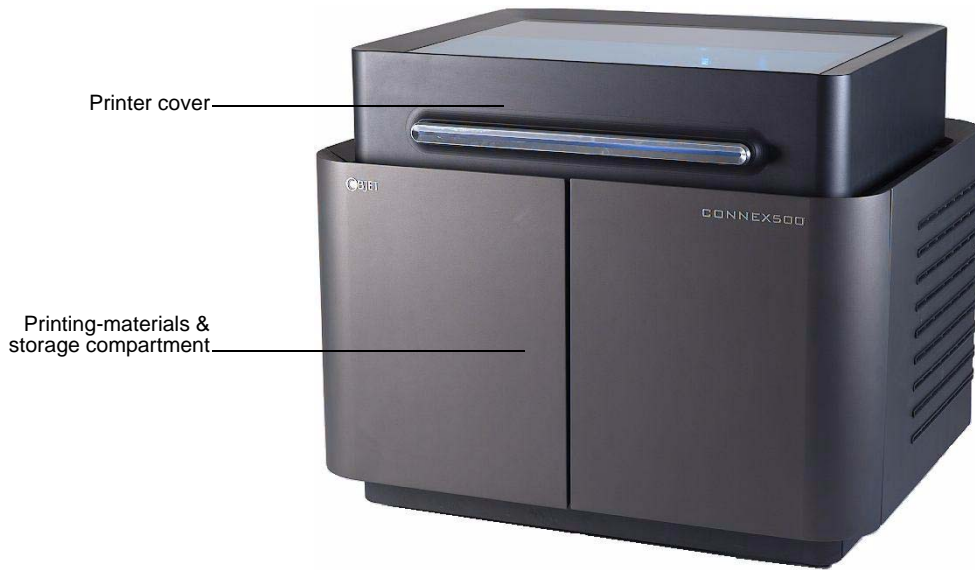

Figure 7-1: The Connex500 3-D Printer
1. On the front of the Connex printer (see figure 7-1), pull open the doors of the storage compartment.